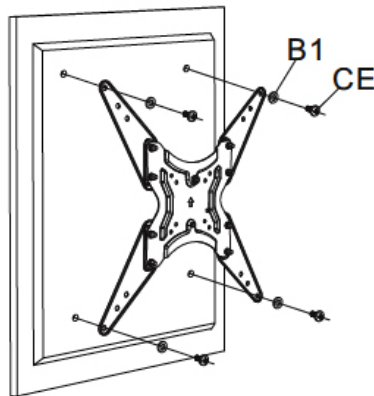

Figure 5B
5. Position the VESA plate over the threaded mounting holes with the arrow pointing up, see **Figure 5B & 5C**.
7. Thread the bolts, along with **Washer (B1)**, into the TV then tighten them with a Phillips screwdriver by turning clockwise until fully tight, see **Figure 5B & 5C**.
**Note:** A washer is not required with **Bolt (D)**.